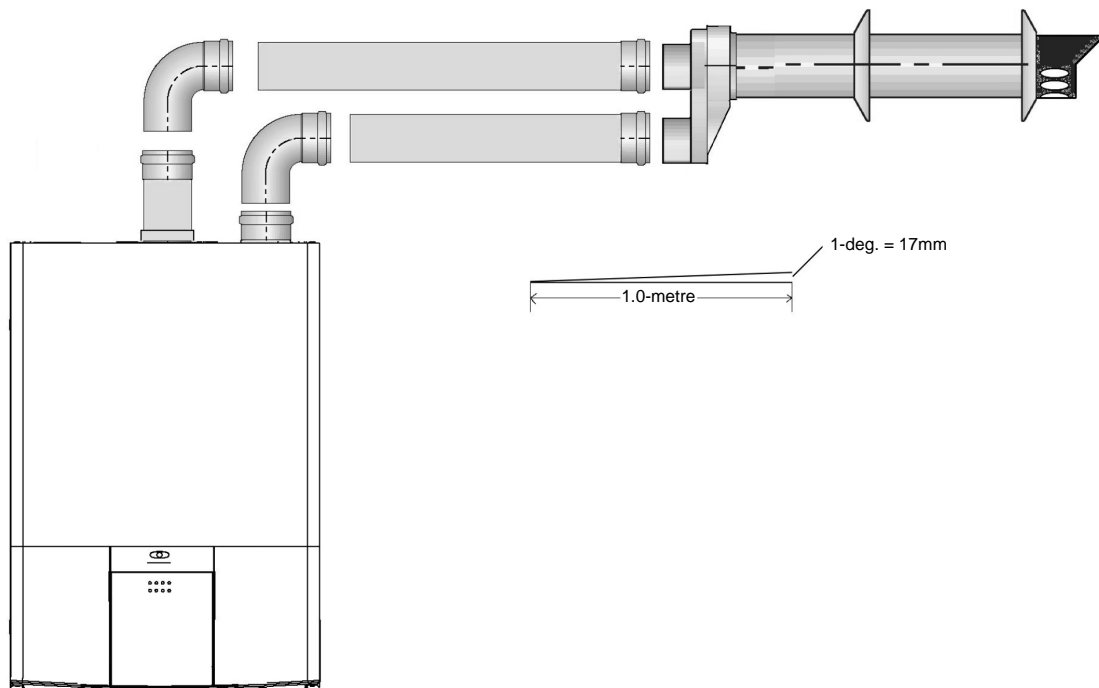

Fig. 12
4.5.3.2 HORIZONTAL TERMINATION (see fig. 12)